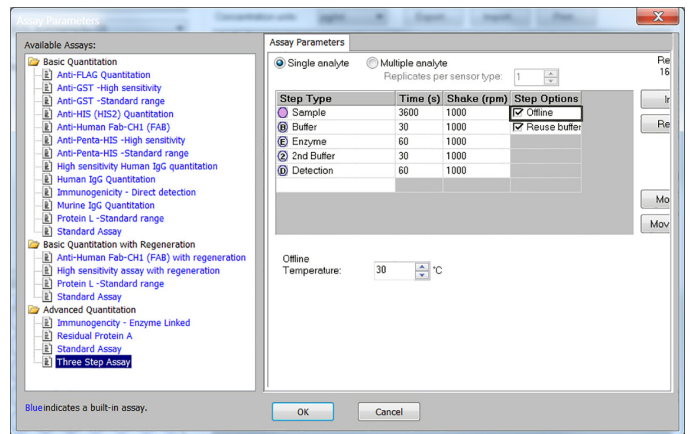

Figure 9: Settings for Advanced Quantitation assays for HCP detection on 8- and 16-channel Octet systems.
- 3 Launch Octet Data Acquisition Software and choose the **Advanced Quantitation** option in the Experiment wizard. In the Assay Settings window, click **Modify** to set up the assay parameters as shown in Figure 9. Note that the sample step is specified to have been carried out offline.
- b Define the Detection Plate layout to correspond to the appropriate layout in Figure 9:
- b The layout of the second plate (Plate 2) is defined to correspond to the appropriate Detection Plate layout in Figure 9 where: